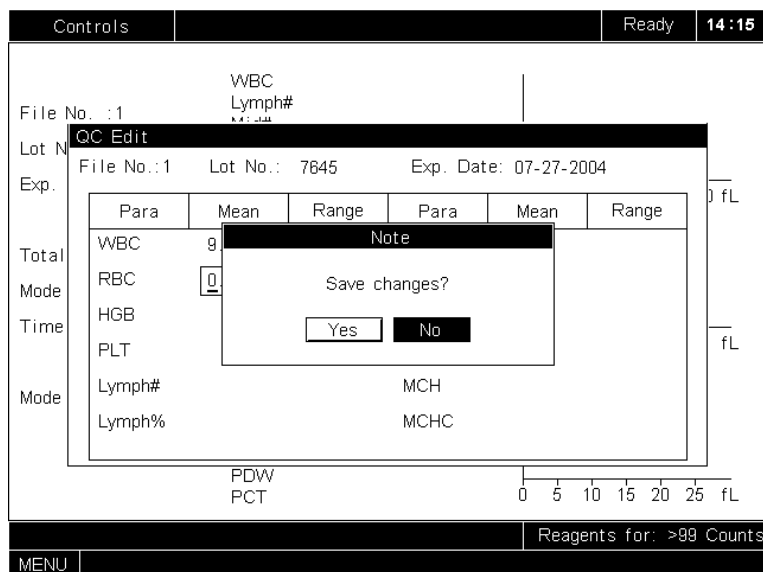

Figure 4-8 Dialog Box to Confirm the Changes
- A. Press [MENU] and a dialog box will pop up to remind the user to save the changes, as Figure 4-8 shows.
- A. If you neither entered new settings nor changed the old settings, you may press [MENU] to directly return to the **Controls** screen without seeing the dialog box shown in Figure 4-8.